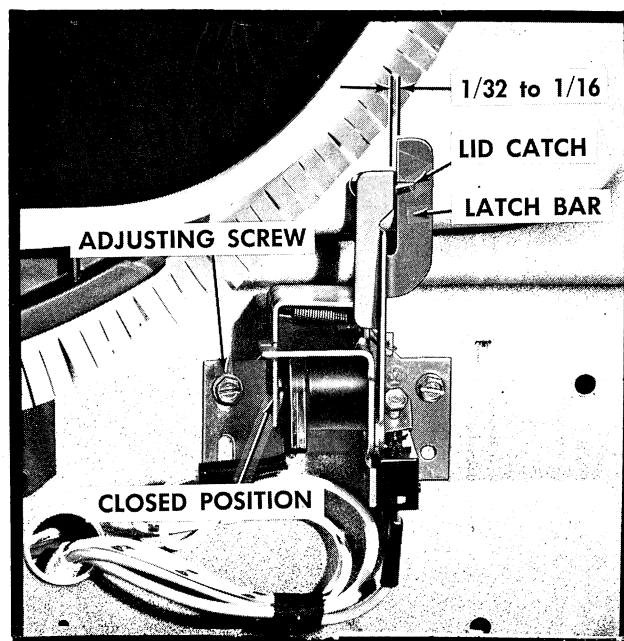

Figure 24
LID SAFETY SWITCH AND LATCH, *Figure 24.*
- Adjust clearance and allow 1/32 to 1/16 inch between nylon lid catch and the latch bar in closed position, *Figure 24.*